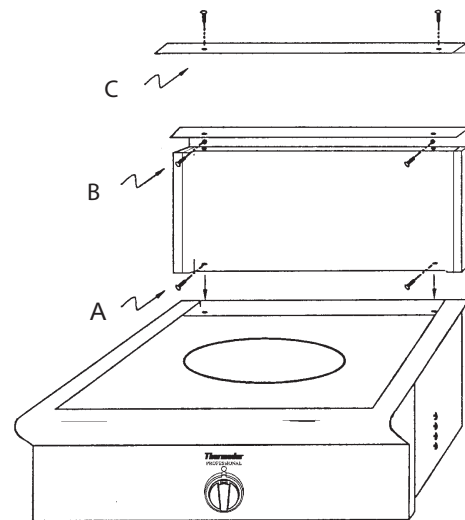

Figure 11: Low Back Attachment
1. Slide backguard over the two flanges on the rear of the appliance. Fasten the front and back with the two screws (see A, Figure 11) provided.
2. Fasten the top of the backguard to the wall with two screws through the backguard. (See B, Figure 11.)
3. Place the backguard cap on top and fasten using the two counter-sink screws provided. (See C, Figure 11.)